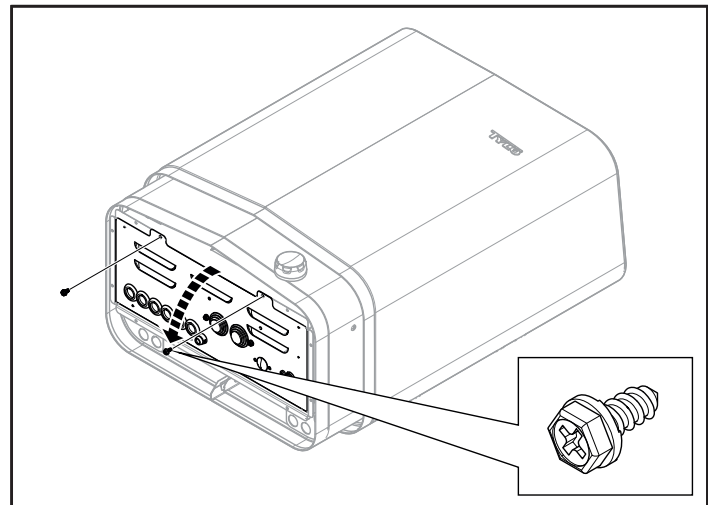

Figure 8: Opening/closing the cover
2. Undo the screws and open the cover (see Figure 8).
- Close the cover and tighten the screws (see Figure 8).